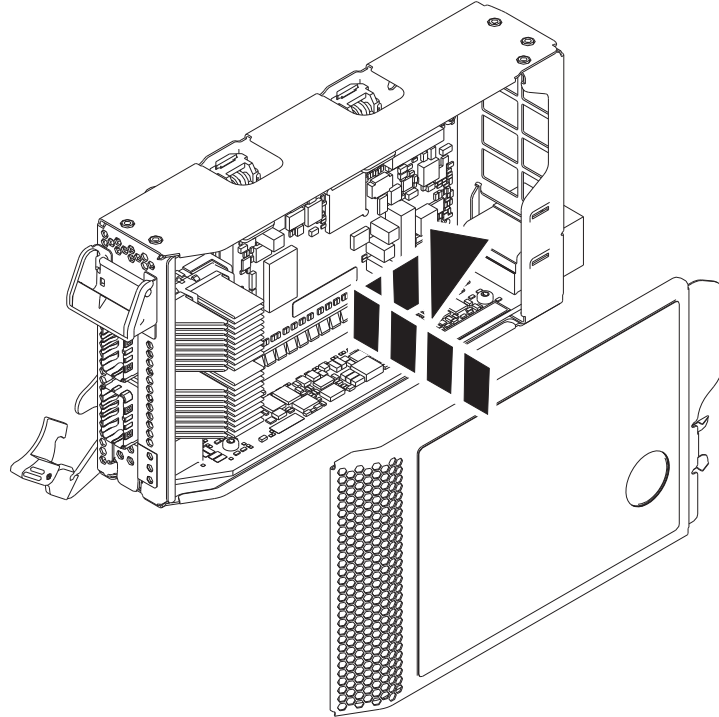

Figure 32. Replacing the PCIe adapter cassette cover
- a. Align and slide the cassette cover into position on the cassette as shown in Figure 32.